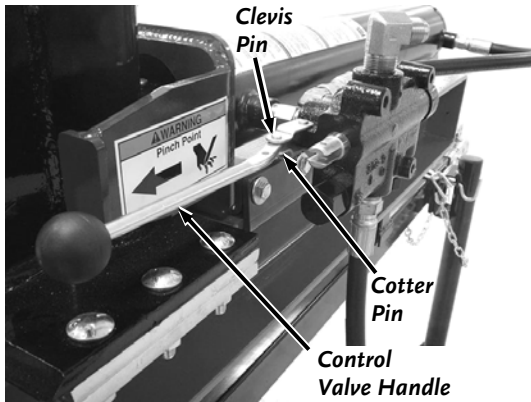

Figure 16
15. Install the control valve handle onto the valve link (**Figure 16**) using a 1/4 x 3/4 inch long clevis pin (install clevis pin from the top). Secure the clevis pin with a cotter pin (bend the ends of the cotter pin to make it secure).